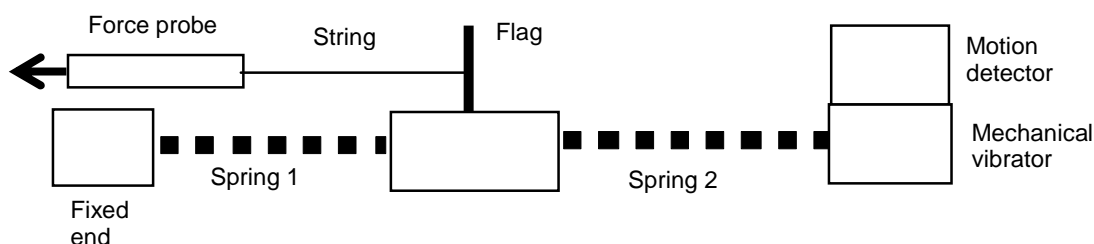

Figure 2
1. Set up the system on the air track as the diagram (Figure 2) below indicates. Ask your TA if you have any questions. **Never move items on the air track unless the air is flowing! You might scratch the surfaces and create considerable friction.** Both springs should be slightly stretched in equilibrium. Move the mechanical vibrator to the right so that the distance from end-to-end of the springs is about 76 cm. Note that the flag is mounted on top of the cart in a position that the motion detector will see it. One spring is connected to a fixture on the left and the other spring will be connected to the mechanical vibrator. The mechanical vibrator is sitting on top of a small glider cart and should no longer be moved on the air track.